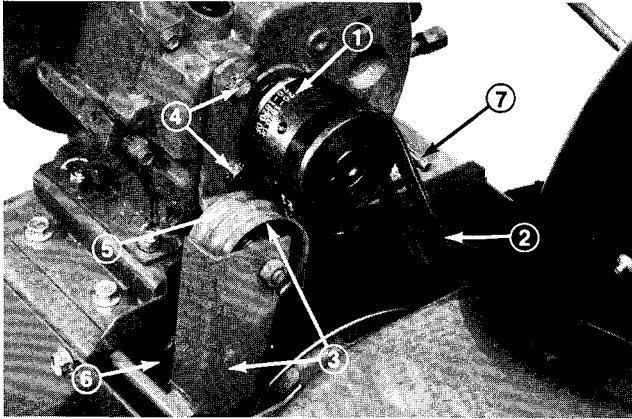

Figure 32
When traction drive belt (Fig. 32) becomes worn, stretched, oil-soaked, or otherwise defective, belt replacement is required.
1. Pull high tension wire (Fig. 32) off spark plug and make sure it does not contact the plug accidentally.
3. Move auger drive control to DISENGAGE and wheel drive control to N, neutral. Next, remove auger drive belt from engine pulley and large auger/impeller pulley (Fig. 32).
4. Loosen two capscrews (Fig. 32) securing traction idler arm to front of engine. Next, remove traction drive belt from engine pulley and large traction pulley (Fig. 32).
5. Install new belt around large traction pulley (Fig. 32). Next, loop belt over engine pulley, making sure that belt is on inside of traction idler pulley and wire belt guide (Fig. 32).
6. Install new belt around large auger/impeller pulley (Fig. 32). Next, loop belt over engine pulley, making sure that belt is on inside of auger/impeller, idler pulley and wire belt retainer (Fig. 32). Slide idler arm and pulley assembly against belt to remove belt slack and tighten capscrews.
When auger/impeller drive belt (Fig. 32) becomes worn, stretched, oil-soaked, or otherwise defective, belt replacement is required.
4. Install new belt around large auger/impeller pulley (Fig. 32). Next, loop belt over engine pulley, making sure that belt is on inside of idler pulley and wire belt guide (Fig. 32).